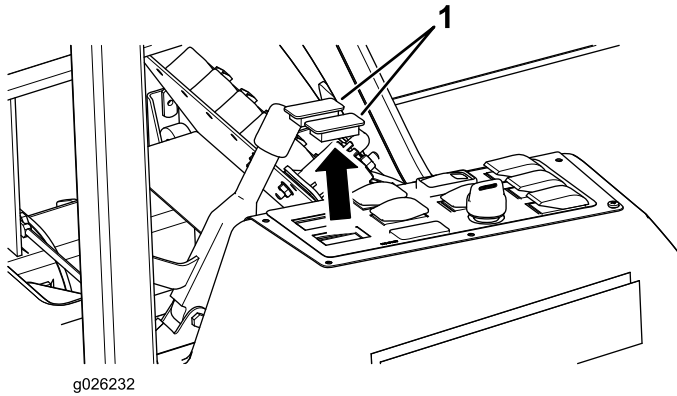

Figure 5
1. Remove the 2 plugs from the control panel (Figure 5).